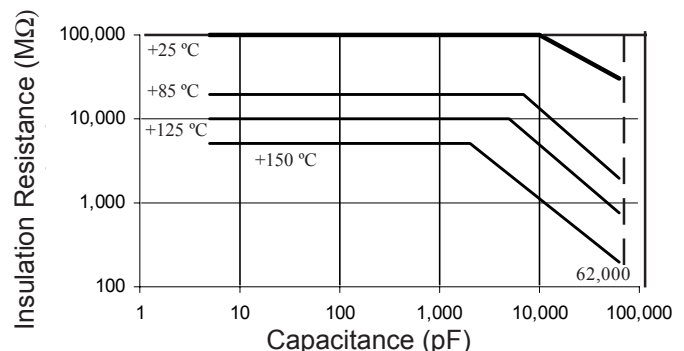

Figure 2. IR vs. Capacitance
**Quality Factor (Q)** is the reciprocal of dissipation factor.
**Insulation Resistance** for capacitances up to 10,000 pF is greater than 100 GΩ at 25 °C and greater than 10 GΩ at 125 °C. For other capacitance values and temperatures, see Figure 2.